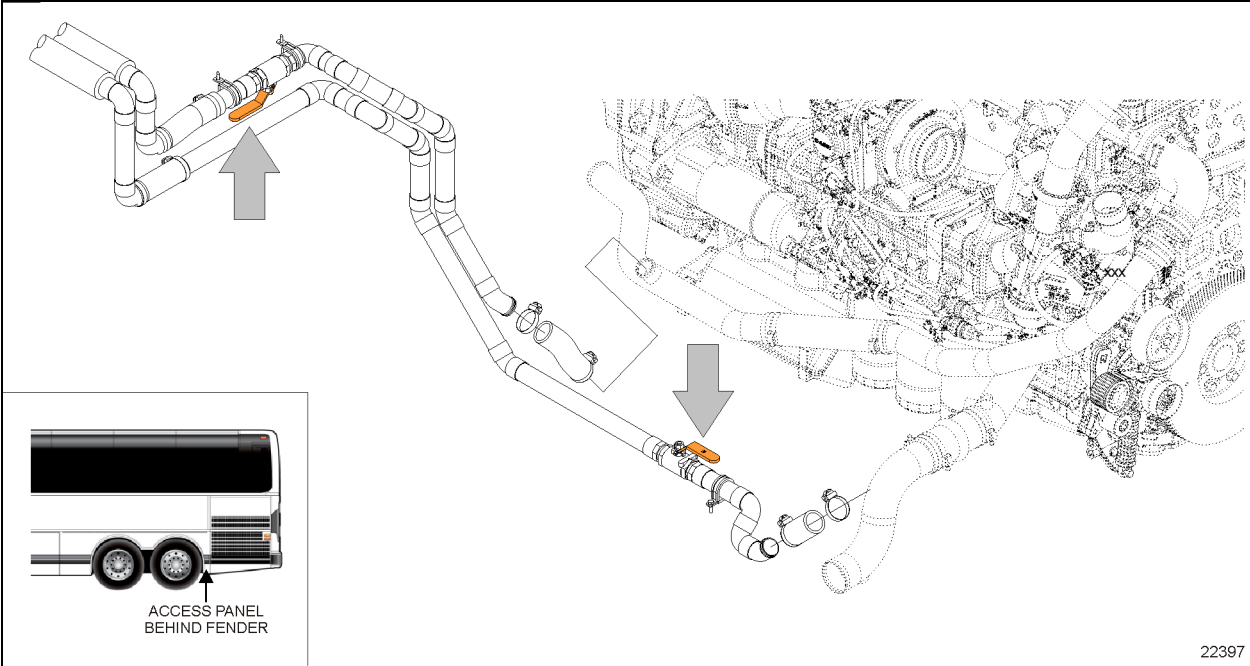
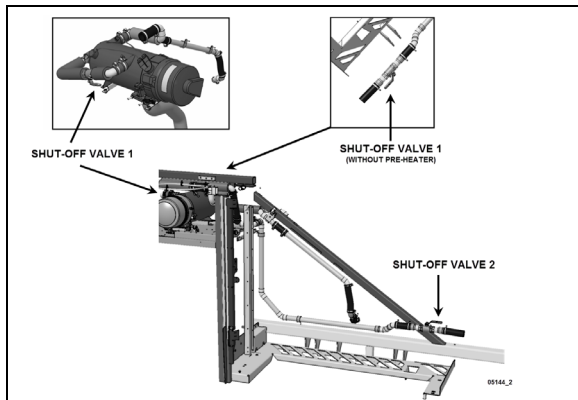

FIGURE 93 X3 SERIES HEATER LINE SHUT-OFF VALVES- (ALLISON TRANS. PIPING ARRANGEMENT SHOWN)
FIGURE 94: H3 SERIES HEATER LINE SHUTOFF VALVES
3. Close the hot water lines shutoff valves located next the engine on street side (see Figure 93 or Figure 94).
2. Close both heater line shutoff valves (Figure 93 or Figure 94). One is located in the engine compartment, lower road side, near the radiator while the other one is located behind the L.H. hinged rear fender near the preheater.